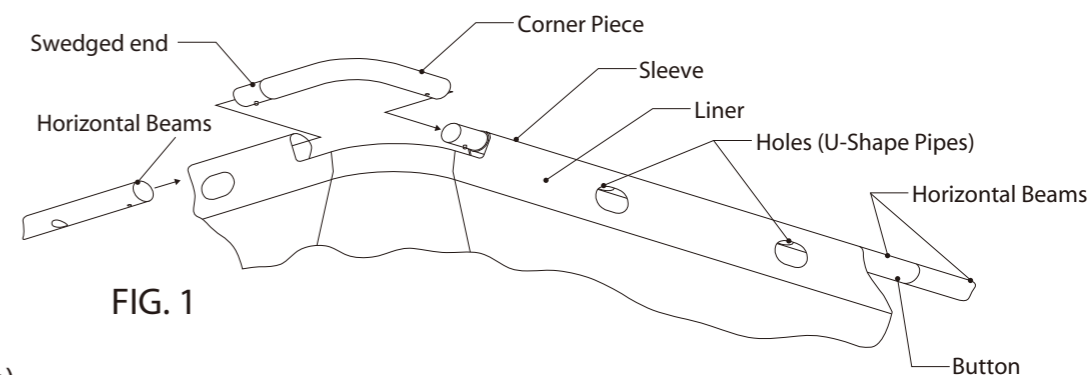

FIG. 1
- B. Locate the four metal (Corner Pieces) of pipe Fig. 1, then place one at every corner of the pool. Now locate the (Horizontal Beams), insert each smaller swedged end of these only to join the beams together in
direction around the pool with all swedged parts pointing clockwise) see Fig. 1 and refer to the "View of All Frame Assembly Parts" shown on page 5.
Connect the (Horizontal Beams) together pushing the button in as you insert one beam into the other beams end. Look through the locking hole in the beam as you join them, slightly rotate the beams until the button aligns with the hole and pops up, locking that beams end into the other beams end. Repeat this procedure for the remaining (Horizontal Beams) making certain the holes in the beams align with the openings in the pool sleeve Fig. 1 these holes are used for the U-Shape Pipe (end) and (side) supports. Next install the corner pieces (**again working in a clockwise direction with swedged ends pointing clockwise**), slide them together and repeat this procedure for all corners, on the last corner it might be necessary to lift the final joining connection at an angle to allow the pipes to fit into each other slowly lowering the ends flat again then sliding them together until it fits in completely, this step may require two people. Now double check all (Horizontal Beam) and (Corner Piece) connections at this time.